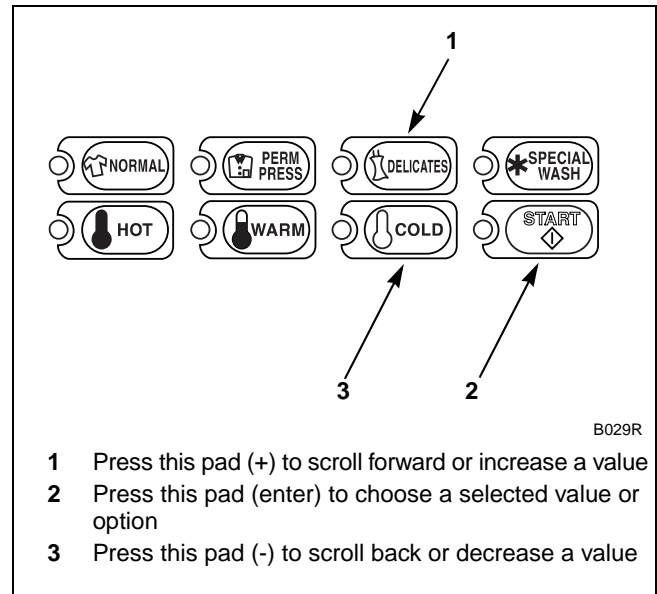

Figure 137
5. Press the DELICATES (+) or the COLD (-) keypad to increase or decrease the current number of minutes displayed in the VFD to the desired number of minutes. Refer to *Figure 137*.
**NOTE: The Normal Rinse Final Fill/Tumble Time can be set from zero (0) to 15 minutes.**